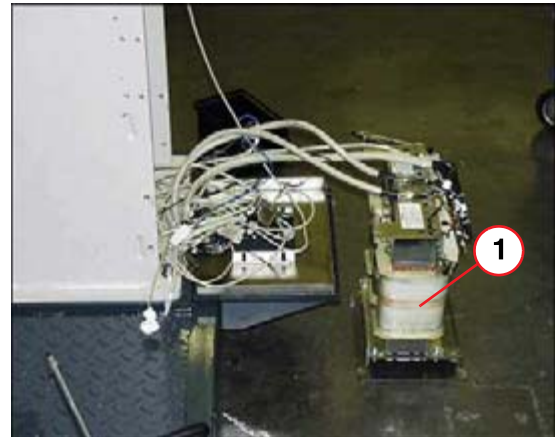

Fig. 7: Removing the system transformer
- Remove the system transformer from the transport frame and place it on the floor (1/Fig. 7 / p. 14).